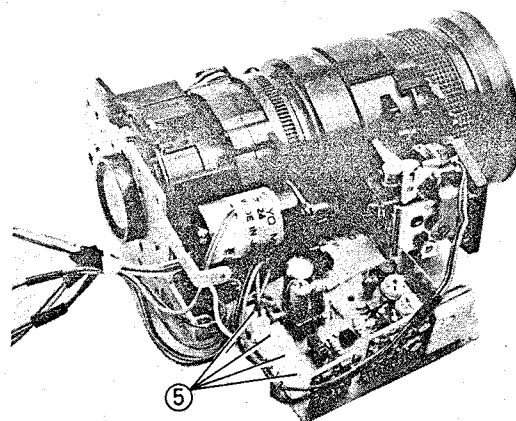

Fig. 2-129 Auto Focus Circuit Board Removal
5. Disconnect four (4) connectors (CN1, CN2, CN3, CN4). (See Fig. 2-129)